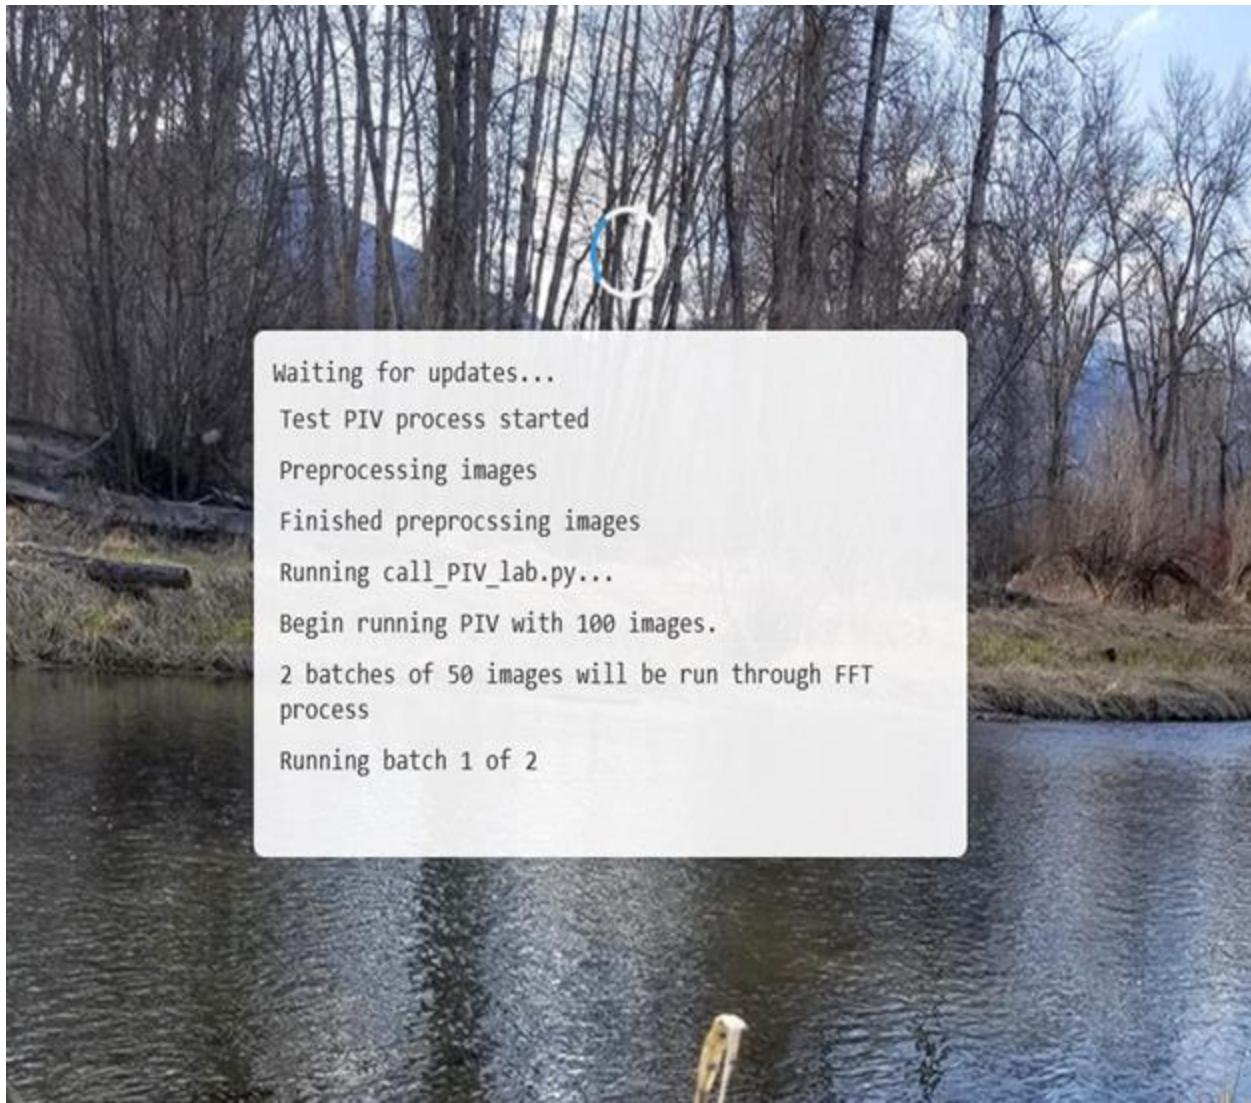

Figure 44. Example of the waiting screen when running a PIV test.
- During the test, you will be directed to a waiting screen that provides live updates on the calculation process – see Figure 44.